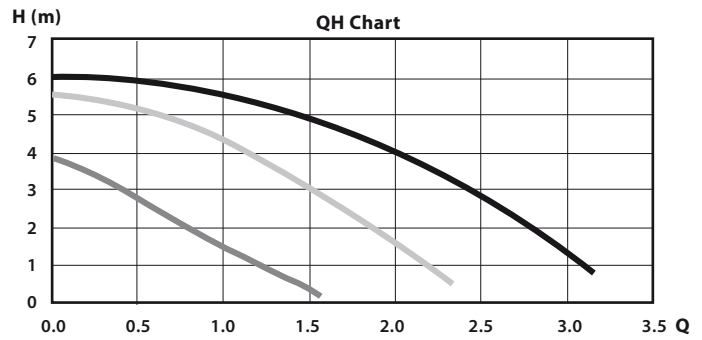

Figure 15.4
15.6 The boilers integral pump is factory set to speed 2 setting to give a 1000 l/hr flow on a nominal over 4 m head. The pump may be adjusted to a lower speed to match the designed central heating system requirements. (Figure 15.4)